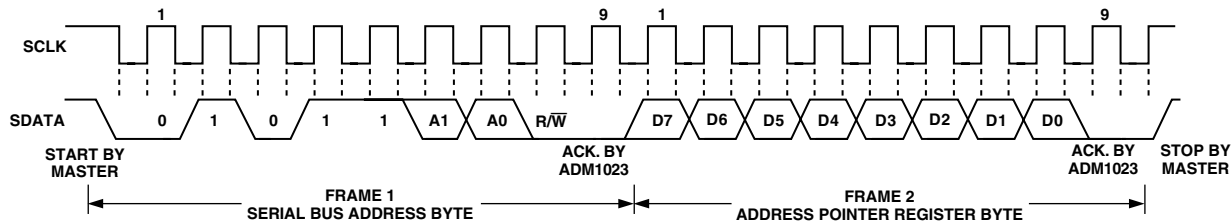

Figure 5. Writing to the Address Pointer Register Only
1. If the ADM1023's Address Pointer Register value is unknown, or not the desired value, it is first necessary to set it to the correct value before data can be read from the desired data register. This is done by performing a write to the ADM1023 as before, but only the data byte containing the register read address is sent, as data is not to be written to the register. This is shown in Figure 5.